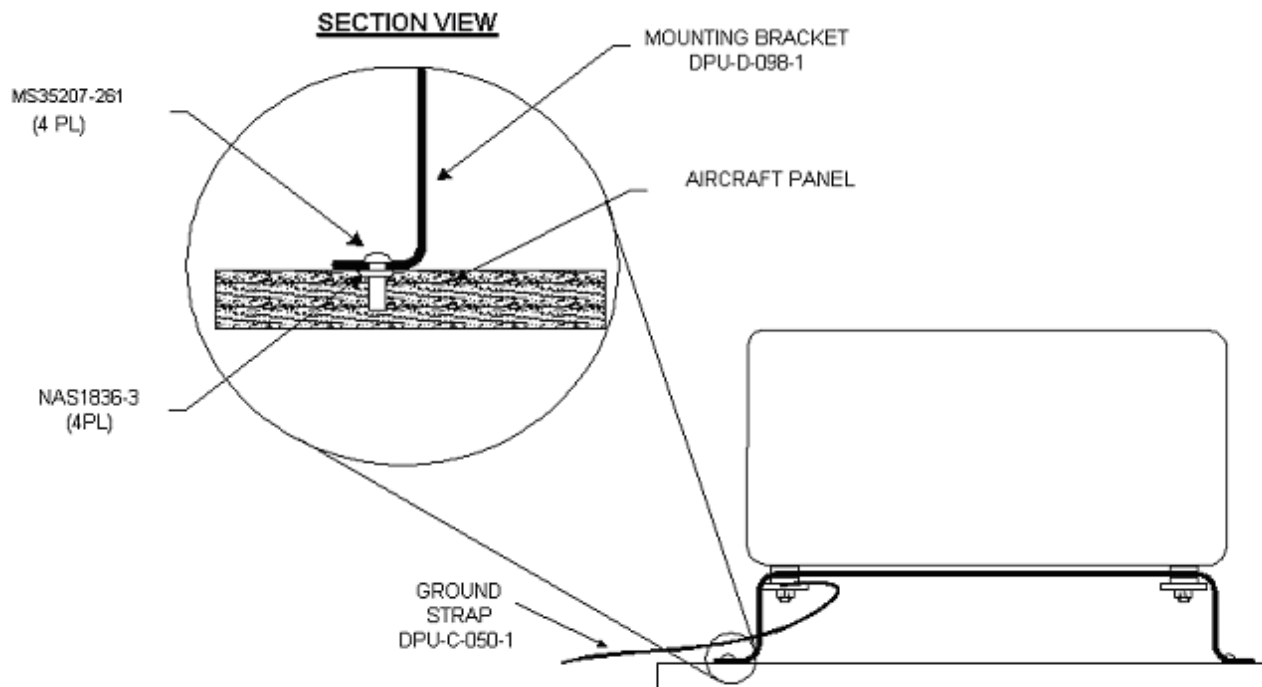
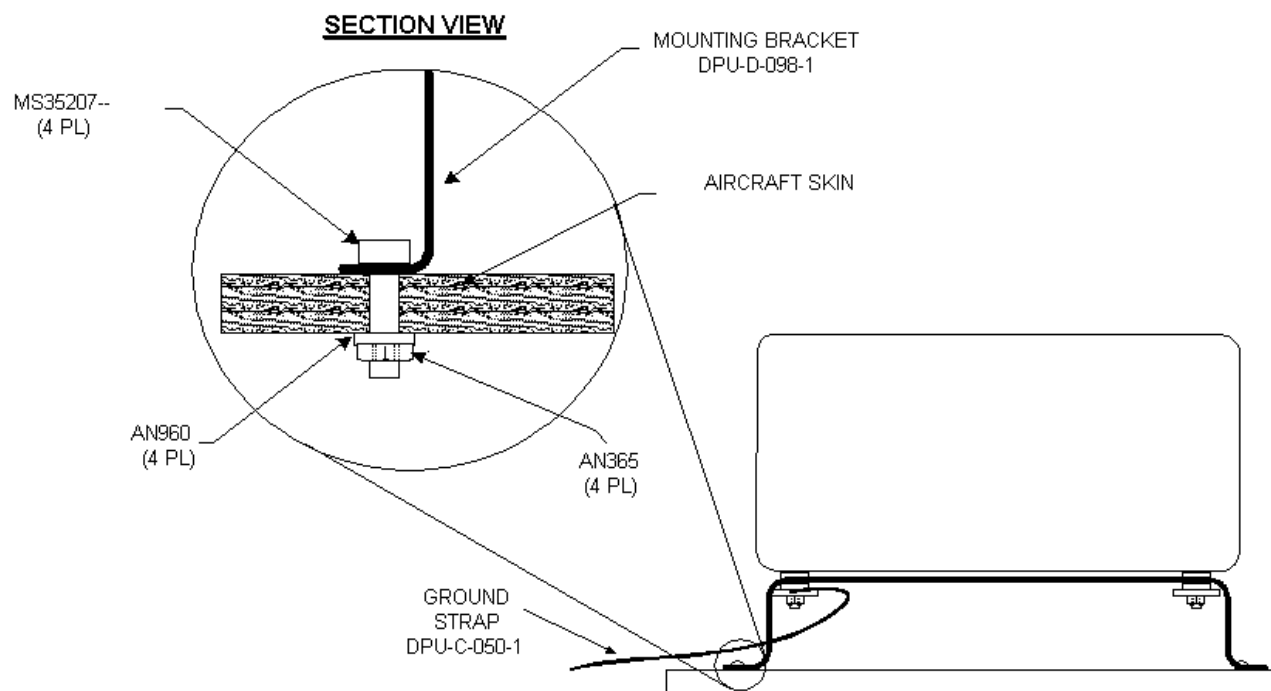

Figure B- 5: Stand Alone Bracket (DPU-D-098-1) to Honeycomb/Sandwich Panel (Side View)
Figure B- 6: Stand Alone Bracket (DPU-D-098-1) to Metal Skin (Side View)
2. If the current location of the Gen III processor does not have sufficient space, the DTU can be mounted in another location using the Low Profile Bracket (DPU-D-098-1). See Figure B- 5 or Figure B- 6. Refer to the applicable aircraft maintenance manual for specific instructions regarding standard practices for structural mounting.
- ☐ 060 Mount the DTU processor and bracket using the required hardware. Refer to applicable Figure B- 5 or Figure B- 6.